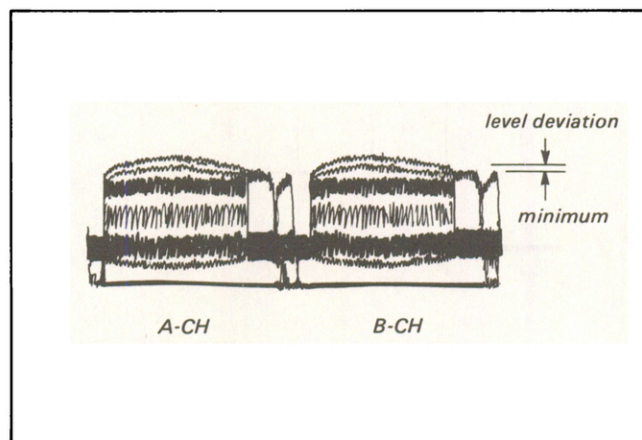

Fig. 4-21. Video chroma level deviation adjustment
- (1) Play back the color-bar signal segment of β II mode of alignment tape with FAST PLAY button pushed.
- (2) Connect the oscilloscope to pin 1 of IC5 on the CR-6 board. (See Fig. 4-21.)